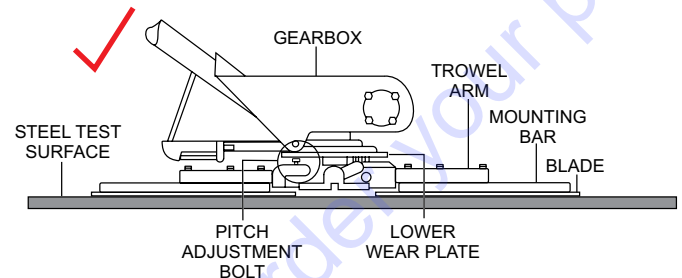

Figure 20. Correct Blade Pitch (Flat)
2. Pitch the blades as flat as possible. The pitch adjustment bolts (Figure 20) should all barely make contact (0.10 inch max. clearance) with the **lower wear plate** on the spider. All pitch alignment bolts should be spaced the same distance from the lower wear plate. If one is not making contact, adjustment will be necessary.